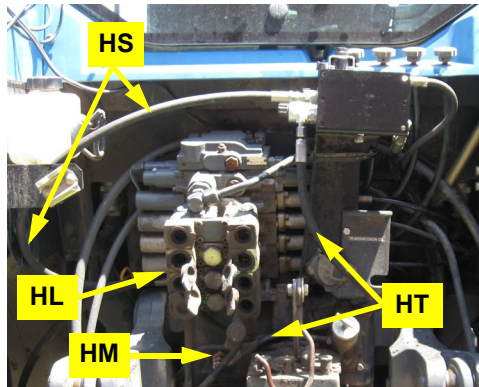

Figure 8a: Pressure and tank hoses connected to steering block
- a. Install hydraulic hose **HS** between fitting **HL** (not visible) installed in the left side of the machine's hydraulic valve stack at step 7a and fitting **HD** in the hydraulic steering block's **P** port (Figures 8a and 8b).
- b. Connect the elbow fitting of hydraulic hose **HT** to fitting **HM** installed in the tank return port in the machine's rear casing at step 7b. Connect the straight fitting of hose **HT** to fitting **HC** in the **T** port of the hydraulic steering block (Figures 8a and 8b).